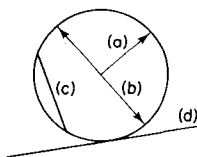

Fig. 3.24
11. Name the parts of the circle shown in Fig. 3.24.